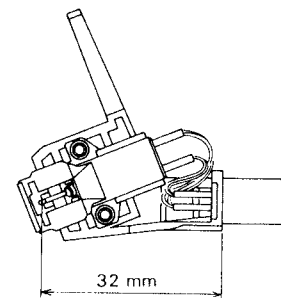

Fig. 21
6-(2) Overhang Adjustment (Fig. 21)